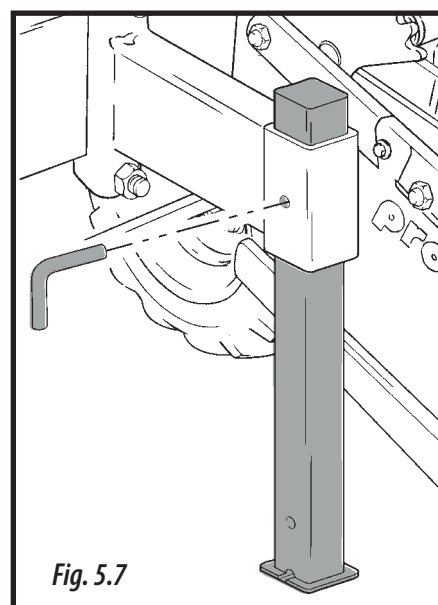

Fig. 5.7
**5-** Before starting to work with the machine, raise the machine's supporting legs (Fig. 5.7).